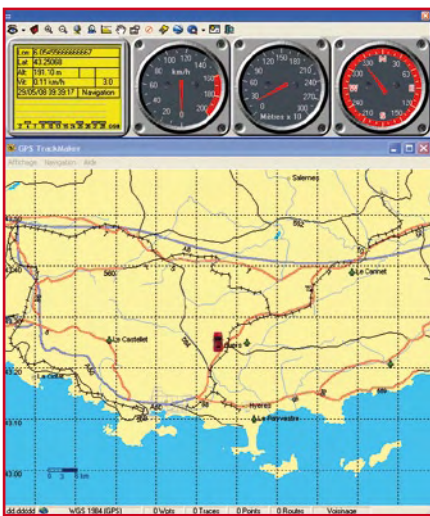

Figure 4. GPS TrackMaker has a cartography system.
- **GPS Track Maker** [4], just as free, also allows the GPS output data to be displayed, but also offers navigation facilities (Figure 4) by means of a large number of maps that can be downloaded from the Internet.